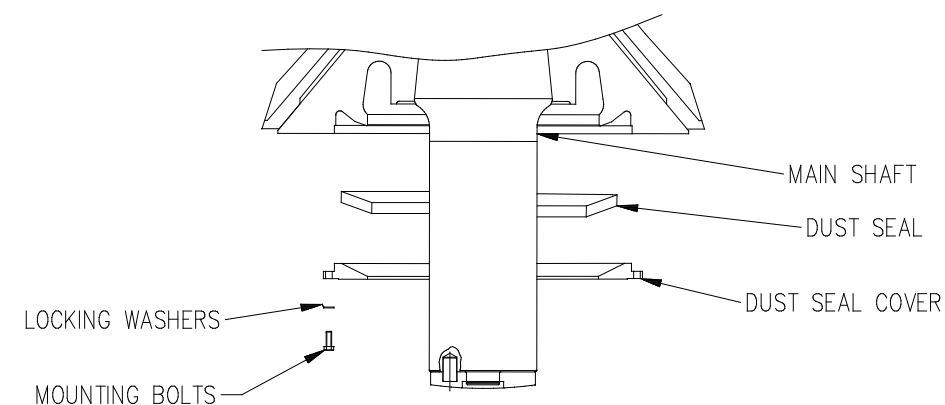

Fig. 6.5.2
7. Replace the dust ring cover and bolt into position. Torque the bolts as per torque tables. Bend the lock washers into place preventing the mounting bolts from coming loose. (Fig. 6.5.2).